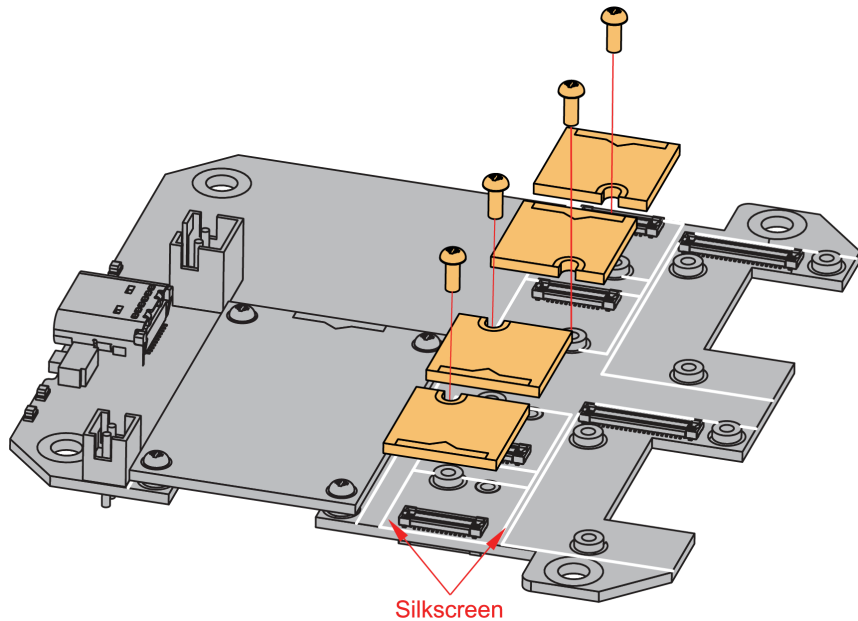

Figure 15: WisBlock Sensor silkscreen on the RAK19001 Base Board
A WisBlock Sensor module is designed to be installed on the sensor slot of the RAK19001 Base Board. There are six (6) available sensor slots in the RAK19001 Base Board. As shown in **Figure 15**, the location of the slots is properly marked by silkscreen. Follow carefully the procedure of the section, attaching a WisConnector, to attach a WisBlock Sensor module. Once attached, fix the module with an M1.2 x 3 mm screw.